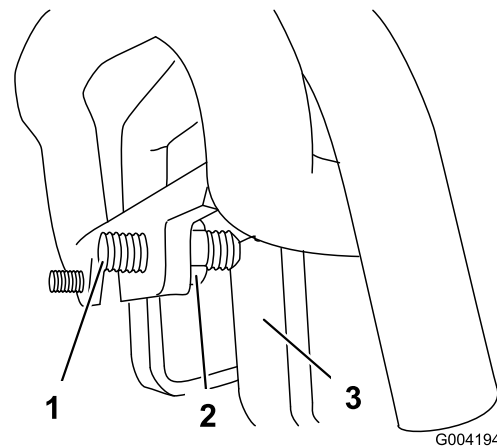

Figure 56
3. If the machine veers to the **left**, loosen the **right** jam nut and adjust the tracking set screw on the front of the traction control (Figure 56).
4. If the machine veers to the **right**, loosen the **left** jam nut and adjust the tracking set screw on the front of the traction control (Figure 56).